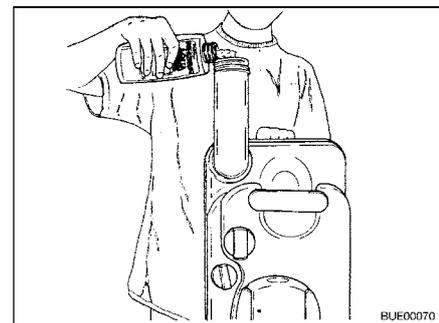

Fig. 280 Filling with sanitary liquid
- Fill the stated amount of sanitary liquid into the sewage tank (Fig. 280).